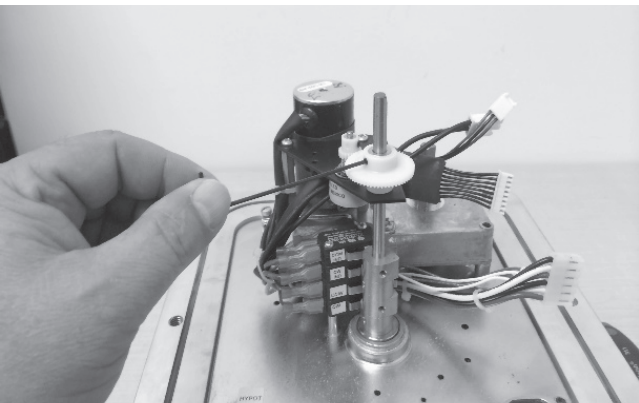

Figure 6.
- 4.8 Using the 1/16" hex wrench, loosen and remove the cam shaft gear and spacers, and retain for future use, see Figure 6.